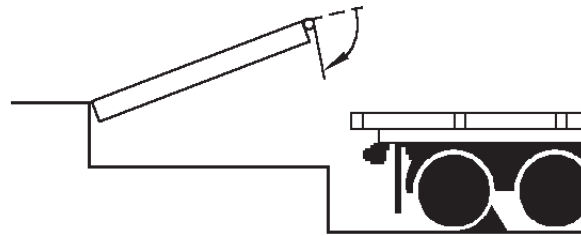

Figure 19
6. When loading or unloading is finished, raise the platform by pressing and holding the RAISE button until the lip folds enough to land in the lip keepers, then release the RAISE button. The platform will return to the cross-traffic position. See Figure 19.